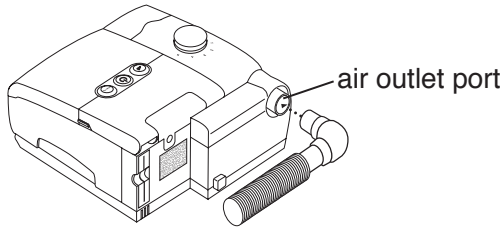

FIGURE 9: CONNECTING THE PATIENT CIRCUIT
7. Attach the swivel, with the flexible tubing attached, to the humidifier's air outlet port. Or, attach the tubing directly to the air outlet port. See Figure 9.